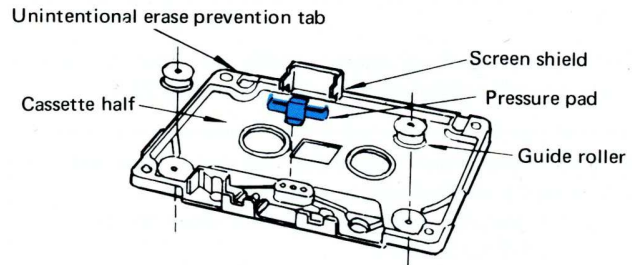

Fig. 58
- e. Pressure pad in the cassette is deformed. (See Fig. 58.)